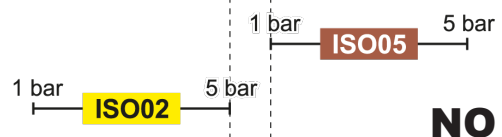

Fig. 127
• **NON-compatible nozzles:** the rate at 1 bar of the ISO05 nozzle is HIGHER than the rate at 5 bars of the ISO02 nozzle (Fig. 127).